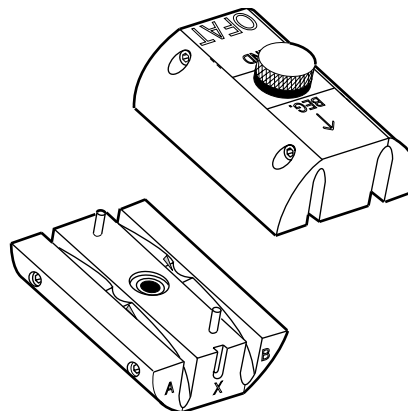

Figure 8
6.1 Loosen the thumbscrew until you can completely separate the halves of the OFAT (Figure 8).